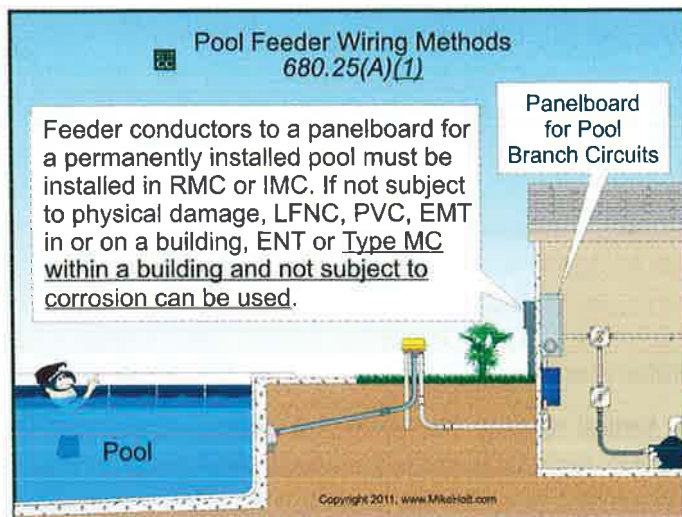

Figure 680-28
(1) Feeder conductors to panelboards containing a permanently installed pool, outdoor spa, or outdoor hot tub equipment circuits must be installed in rigid metal conduit or intermediate metal conduit. If not subject to physical damage, the following wiring methods are permitted: **Figure 680-28**